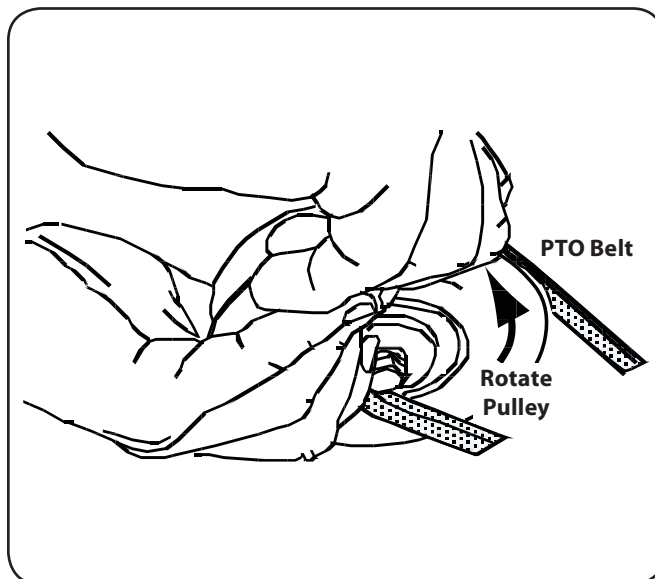

**Figure 7-7**
2. Remove the belt guards by removing the hex screws that fasten them to the deck. See Fig. 7-7.
3. Loosen, but do not remove the belt keeper rod on the pulley located near the back of the deck. See Fig. 7-7